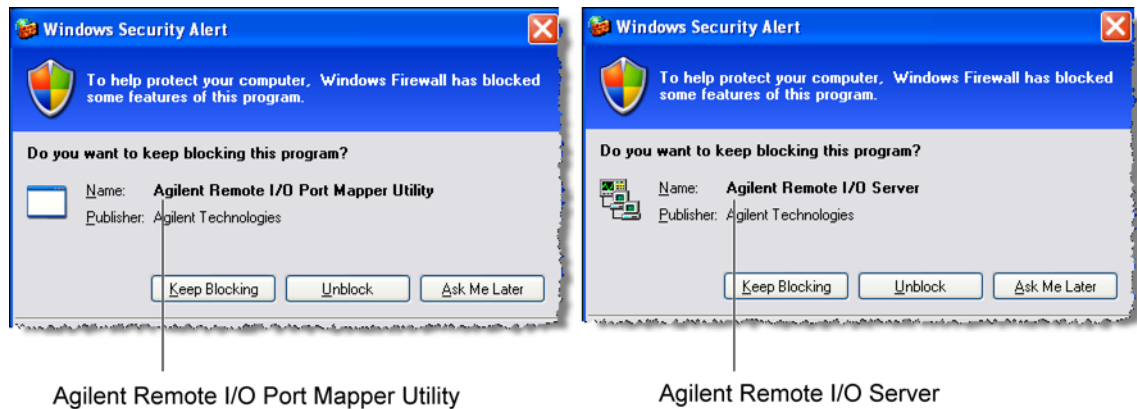

Figure 1. Example Windows Firewall Security Alerts
- 7 If you are prompted by a firewall application to block the Agilent Remote I/O Port Mapper Utility and the Agilent Remote I/O Server, select Unblock as shown in Figure 1 on page 20. See the introduction to this section for more information.